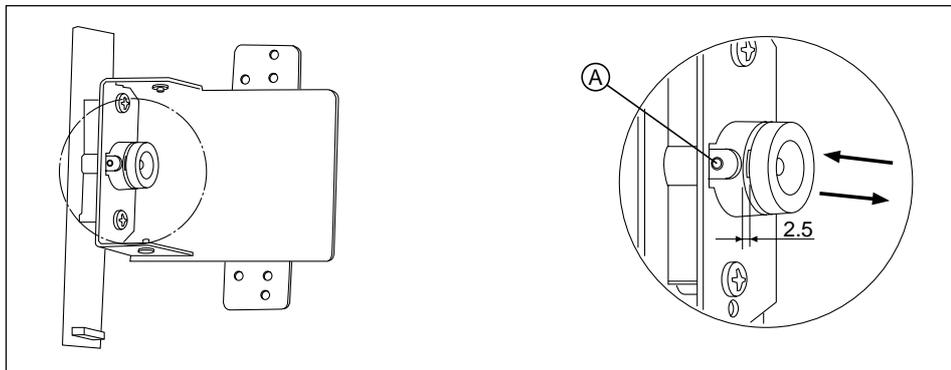

Fig. 4
5) Temporary lens focus adjustment of CCD Unit. (See Figures 4.)